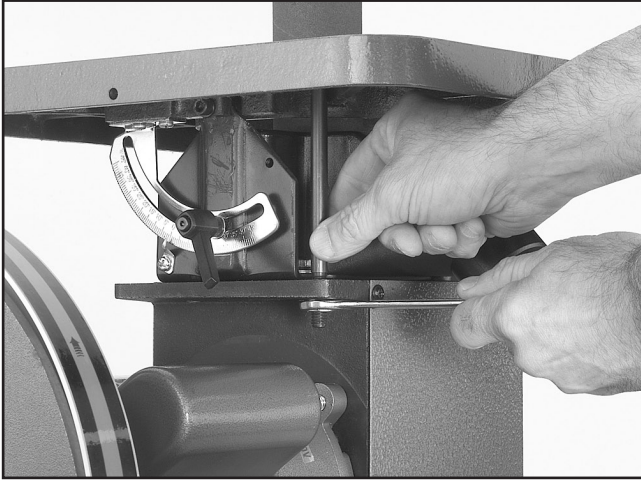

Figure 11. Squaring the sanding table.
2. Using a machinist square, set one edge on the table surface and the other against the face of the sanding disc as shown in **Figure 11**. Note—*This can be done with the sandpaper installed, although it is somewhat easier to measure if the disc does not have the sandpaper disc installed.*